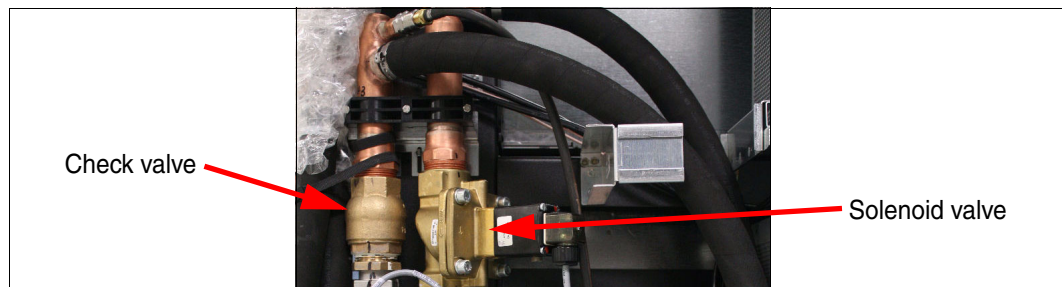

Figure 4-48 Check valve and solenoid valve⁹
- ▶ Liquid and air do not flow through the check valve in either direction during the manual drain procedure because gravity is not enough to overcome the check valve spring. Figure 4-48 shows the check valve and solenoid valve locations.
- ▶ Liquid and air do not flow through the solenoid valve in either direction during the manual drain procedure because gravity is not enough to overcome the valve spring. See Figure 4-48.